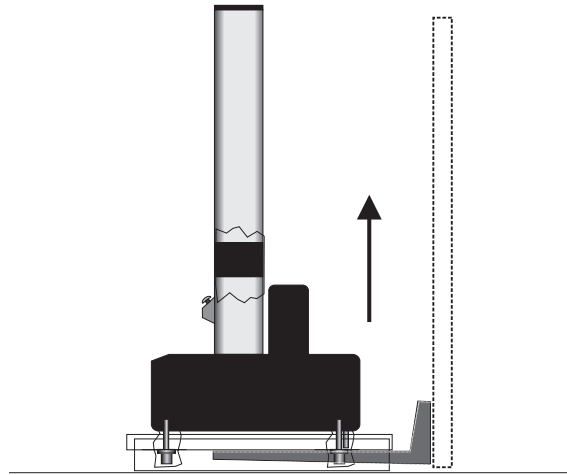

Figure 12. *Lifting the Frame using the shipping skid*
2. Carefully insert the forks under the shipping skid as shown in Figure 12 on page 66.